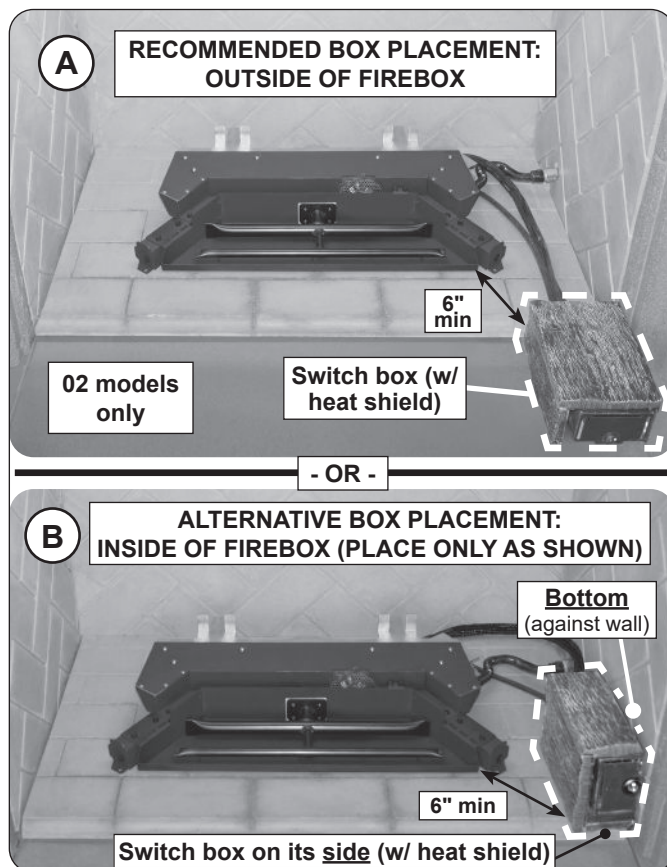

Fig. 11-1 Position switch box (02 models only)
1. It is recommended the switch box be placed outside of the firebox and a minimum of 6" from the burner/flame. See Fig. 11-1, A.
Alternatively, the box can be placed inside of the firebox, but must be oriented as shown in Fig. 11-1, B. Set the box on its side and place the bottom of the box toward the right firebox wall (box must be a minimum of 6" from the burner/flame). DO NOT place at the rear of the firebox.
2. Place the large decorative heat shield over the switch box (see Fig. 11-1, A or B).